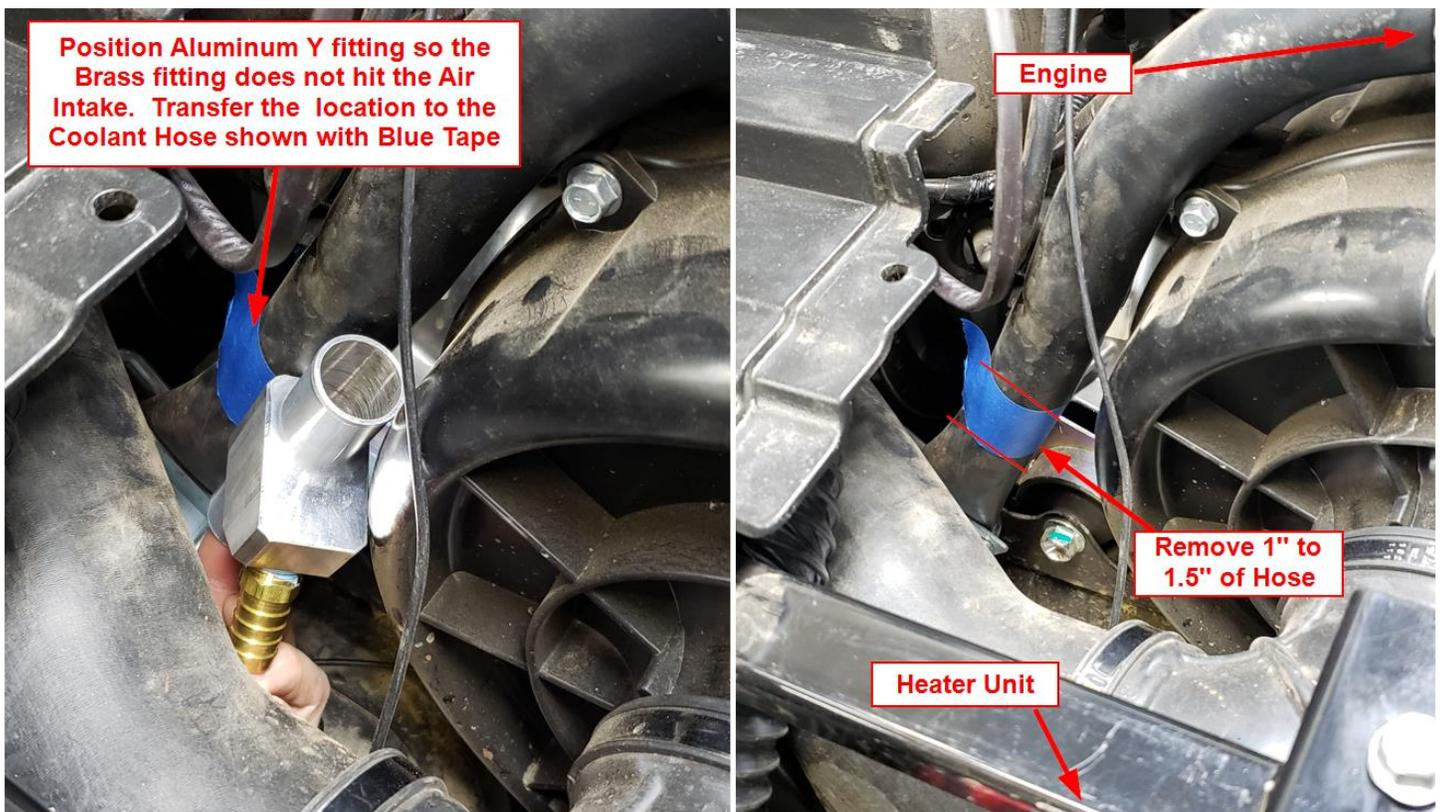
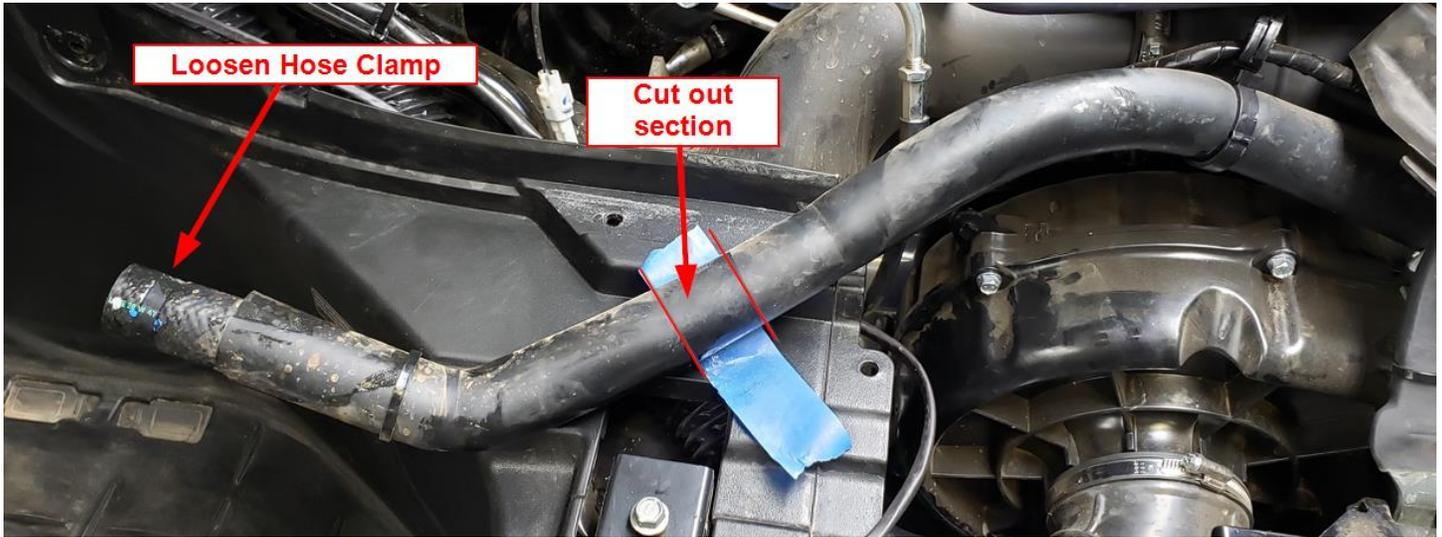

Figure 34
Figure 35
- h. If the optional MaxStat (Thermostat Bypass) is not ordered, position one of the Aluminum Y's as shown in Figure 34 so that the Brass fitting does not interfere with the clutch air intake. Mark a 1"-1.5" piece of the hose approximately the size of the Aluminum Y body, use a knife to cut the abrasion guard back and cut the 1"-1.5" section out. If the coolant system has been drained it's easiest to loosen the hose clamp that connects the main radiator hose to the aluminum coolant lines in the center tunnel and pulling the hose up and out of the center tunnel for better access, see Figure 35. Insert the Aluminum Y and secure using #16 Hose Clamps.